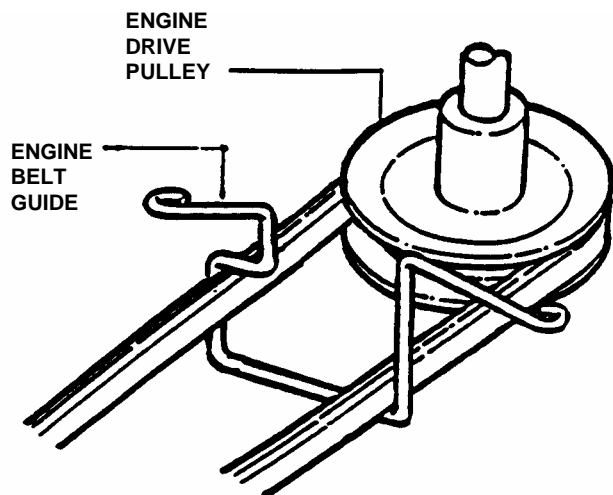

FIGURE 4.14
4. Route new belt through engine belt guide up to engine pulley. See Figure 4.14.
7. To clear the primary chain case, move transmission shift lever to the #5 position. Route belt around drive disc and into drive pulley belt groove. See Figure 4.14.